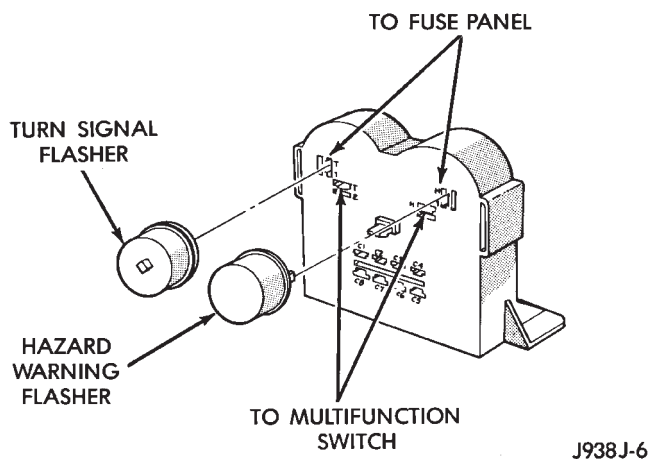

Fig. 3 Flasher Wiring
(1) Turn ignition key to RUN position. Place turn stalk in up or down position. Observe the turn indicator arrow on instrument cluster. If the arrow stays lit, check for burned out exterior turn signal bulb. Replace bulb as required. Turn indicator should now flash, if not go to next step.
(2) Open front passenger door. Locate the fuse panel at the passenger end of the instrument panel. Inspect 20 amp Turn fuse in cavity #16. Replace if necessary.
(3) Locate turn signal flasher in convenience center and remove it. There should be battery voltage at the fuse side of the flasher (top terminal) (Fig. 3). If not, repair open circuit in wiring between turn fuse and flasher.
(4) Replace flasher with a known good flasher. The lamps should flash. If not, install original flasher, put electrical tape over flashers and go to next step.
(5) Locate multi-function as described in Multi-Function Switch Testing Procedures. Measure voltage at the multi-function switch connector cavity #17. Meter should read battery voltage. If OK, replace multi-function switch assembly. If not, repair open circuit in wiring between turn flasher and multi-function switch.
(1) Open front passenger door. Locate the fuse panel at the passenger end of the instrument panel. Inspect the 20 amp Haz. Lamps fuse #3. Replace if necessary.
(2) Measure voltage at the fuse side of the flasher (top terminal) (Fig. 3). Meter should read battery voltage. If not, repair open circuit in wiring between fuse and Hazard flasher.
(3) Replace Hazard flasher with known good flasher. Lamps should flash. If not, install original flasher and go to next step.
(4) Locate multi-function as described in Multi-Function Switch Testing Procedures. Measure voltage at the multi-function switch connector cavity #13. Meter should read battery voltage. If OK, replace multi-function switch. If not, repair open circuit in wiring between hazard flasher and multi-function switch connector cavity #13.
- (1) Disconnect battery negative cable.
- (2) Remove tilt lever (tilt column only).
- (3) Remove both upper and lower steering column covers. Requires removal of 3 screws (Torx T-20).
- (4) Remove 4 screws holding steering column trim panel (Fig. 3).
- (5) Remove 6 screws holding knee blocker.
- (6) Remove steering column retaining nuts.
- (7) Lower steering column.
- (8) Remove multi-function switch tamper proof mounting screws (tamper proof Torx bit Snap-On TTXR20B2 or equivalent required).
- (9) Gently pull switch away from column. Loosen connector screw. The screw will remain in the connector.